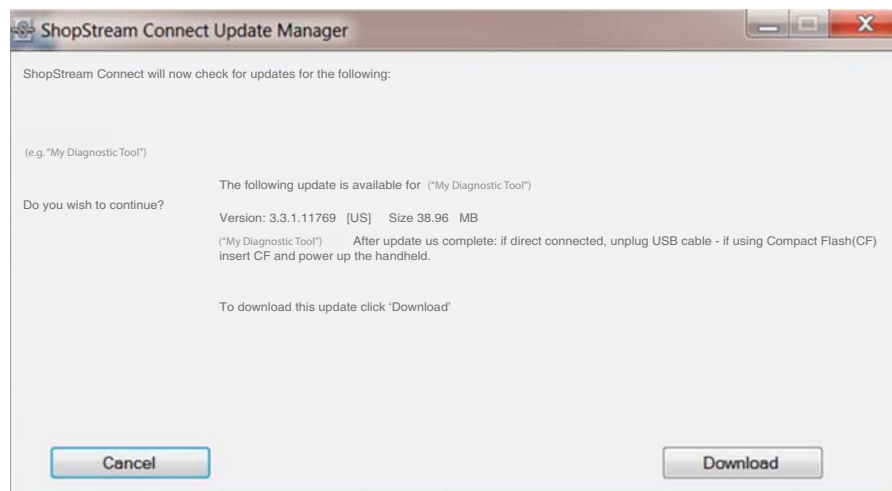

Figure 15-12
2. If service release updates are available, select **Next** to continue, then select **Download** and follow the on-screen instructions to complete the installation (Figure 15-12).